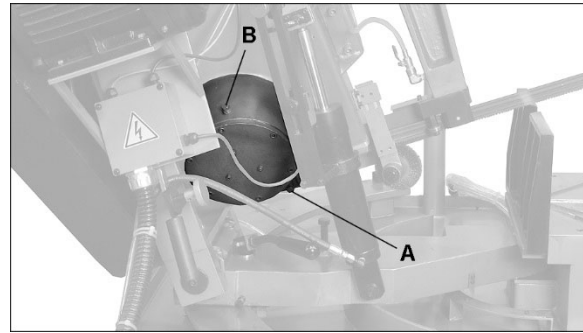

Figure 10-1
1. Remove drain plug (A, Figure 10-1) and allow lubricant to drain completely. Reinstall drain plug.
2. Remove oil fill plug (B) and fill gearbox with 1 liter (1 qt.) of Mobil™ SHC 634 gearbox oil, or equivalent. Replace fill plug.